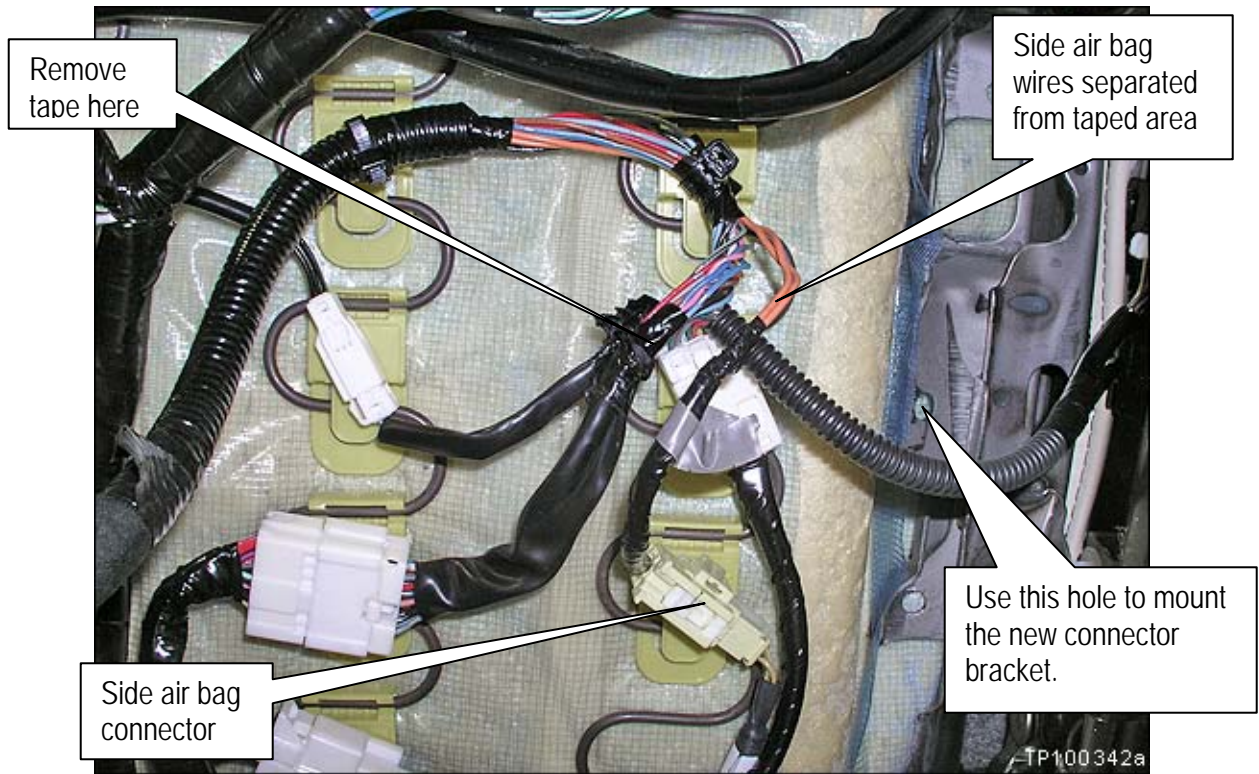

Figure 1
- Figures 1 through 10 are used for both the driver and passenger seat.
1. Look under the seat and locate the harness and connectors shown in Figure 1.
2. Remove tape from the area shown in Figure 1, just enough to separate the Side Air Bag (SAB) wires.